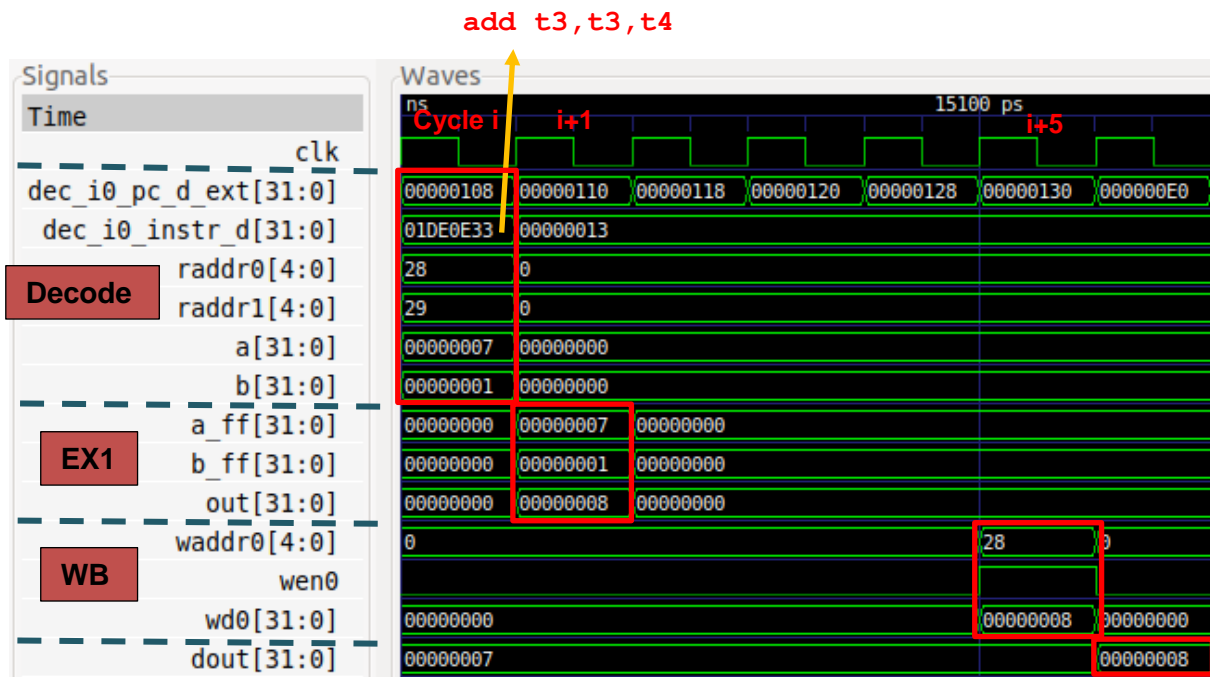
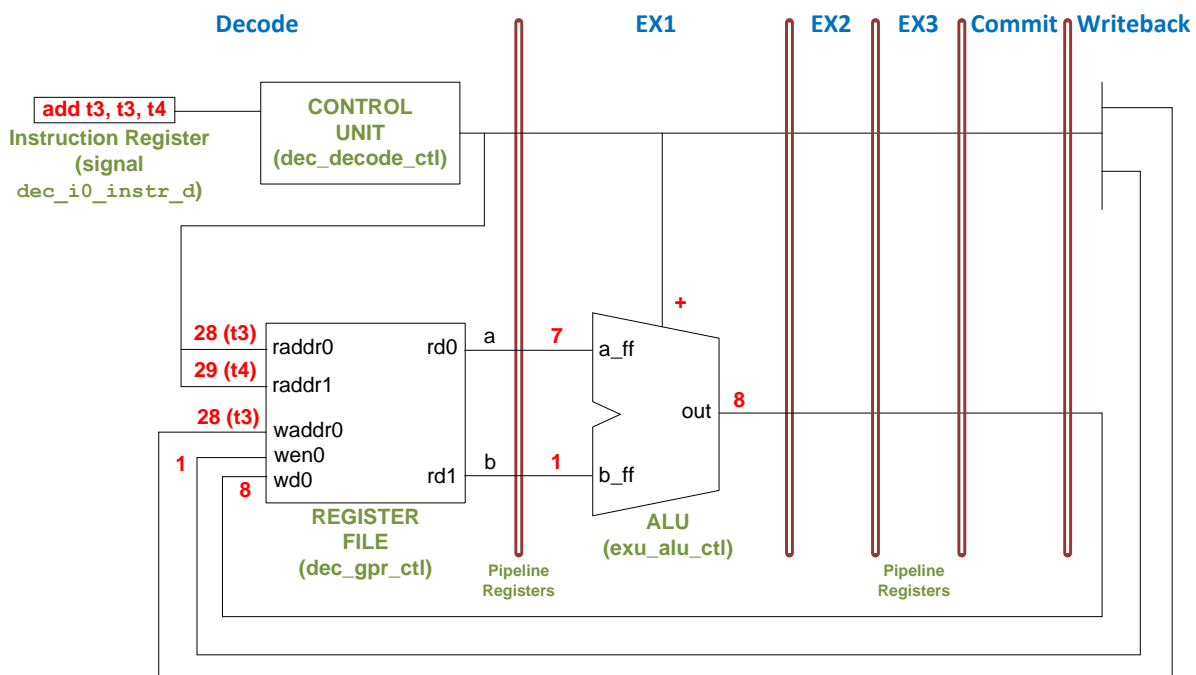
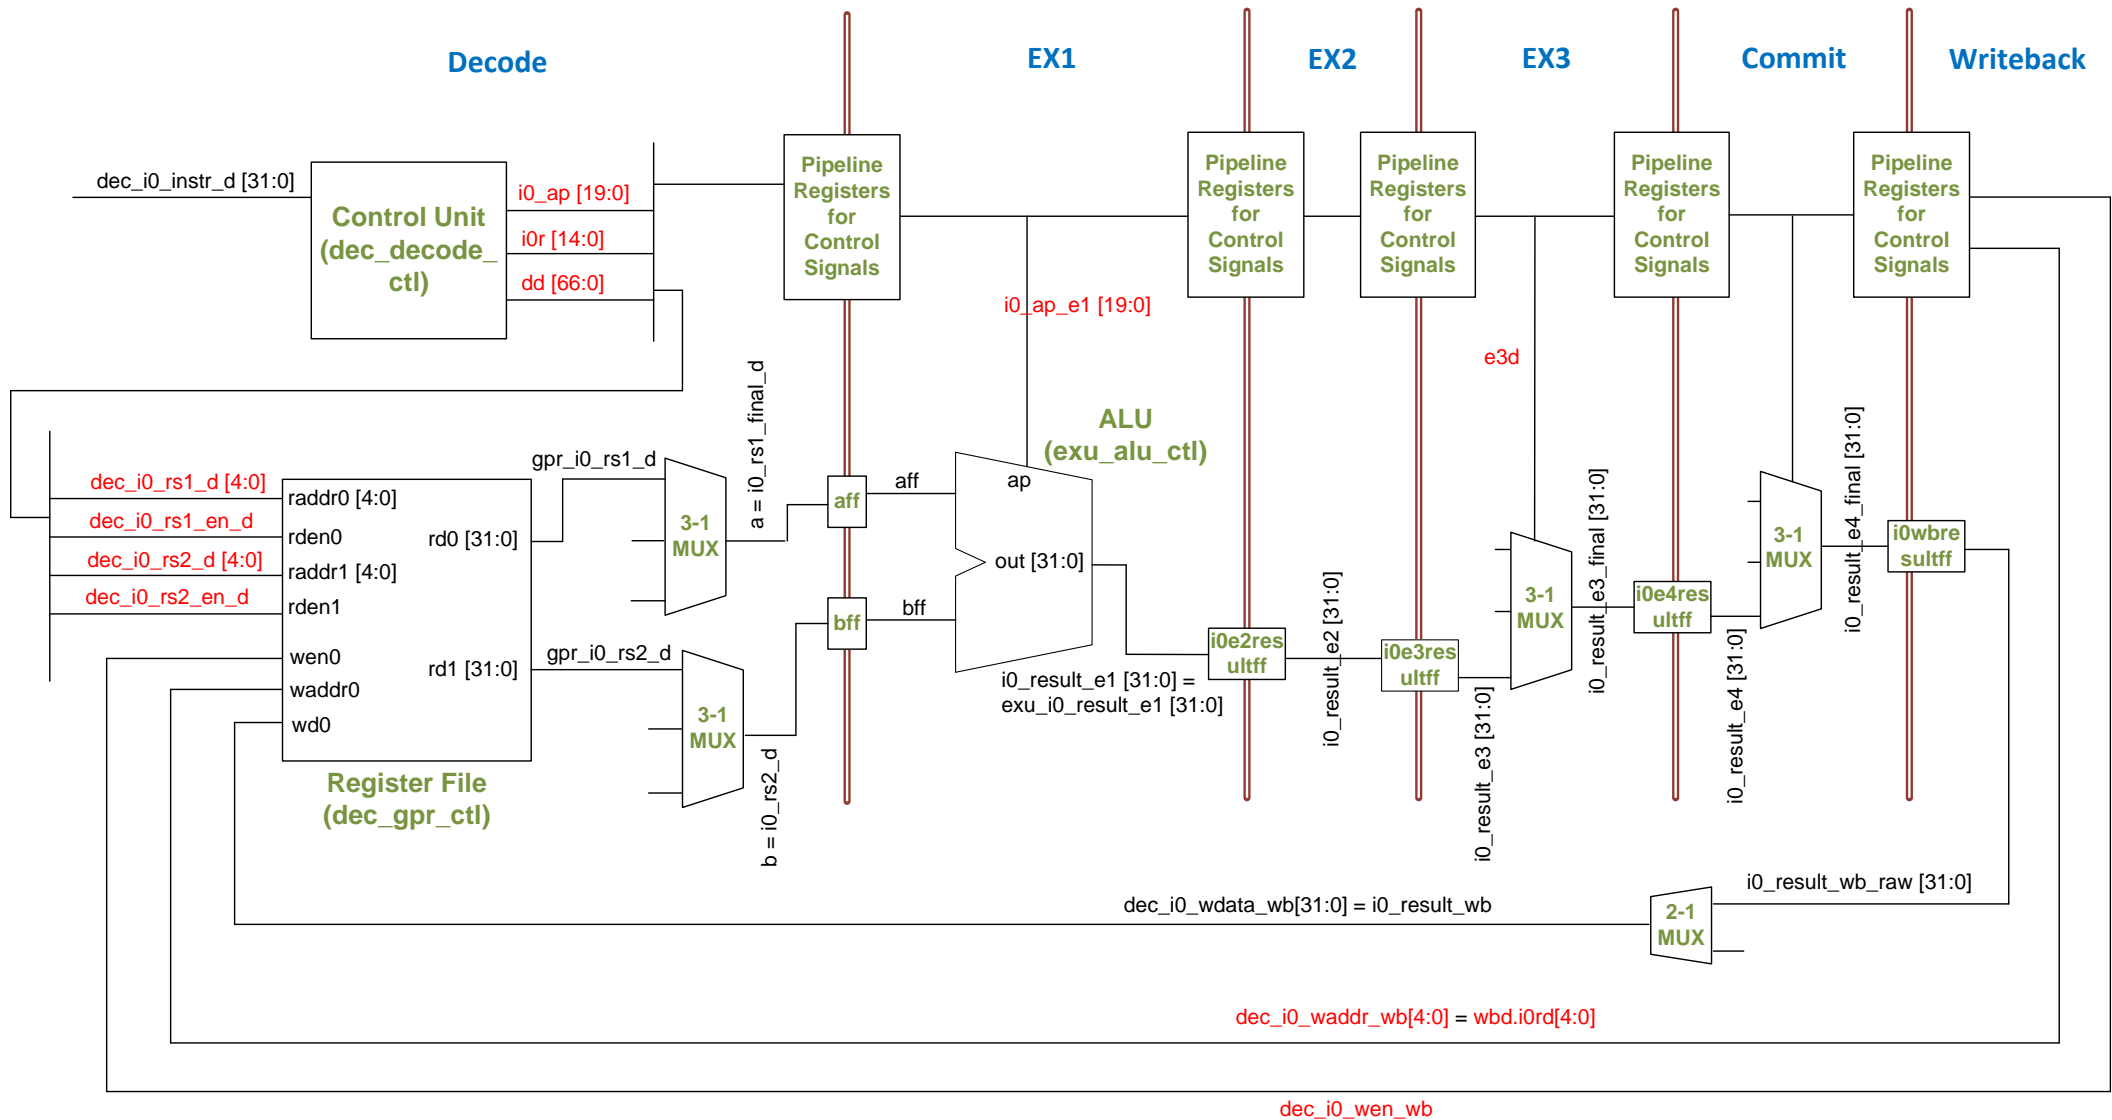
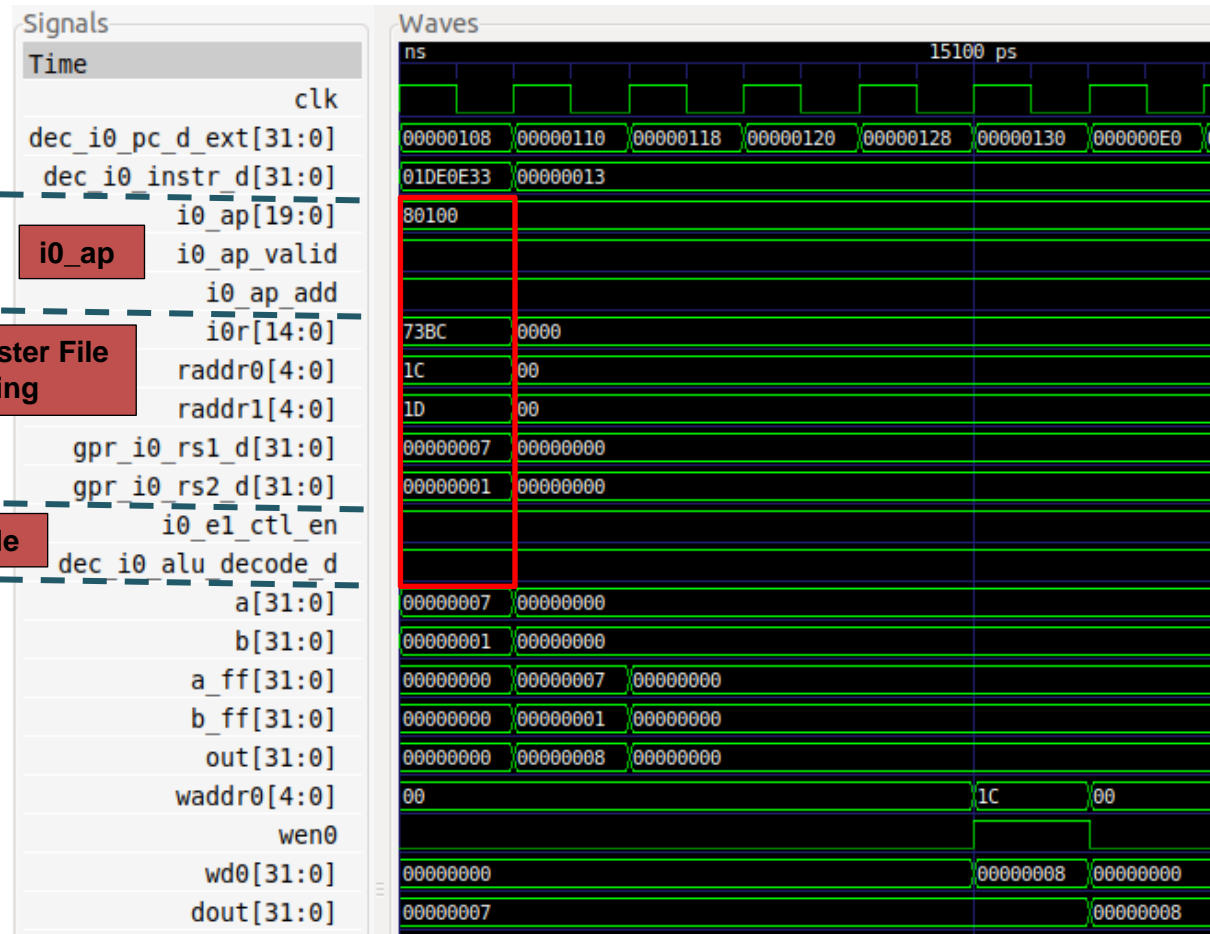

Figure 3. Verilator simulation for the example program in Figure 2
Figure 4. SweRV EH1 pipeline executing an add instruction
Figure 6. Main units used by Arithmetic-Logic instructions flowing through the I0 pipe
Figure 7. Verilator simulation of the example program of Figure 2, including control signals and Register File read ports
Figure 3 shows the Verilator simulation of the program from Figure 2 for the execution of the `add` instruction in the fourth iteration of the loop. The figure includes some signals associated with the Decode, EX1 and Writeback (WB) stages. The values highlighted in red correspond to the `add` instruction as it traverses these three stages through the I0 Pipe. Note that the signals shown in the figure correspond to the I0 Pipe.
Figure 4 shows a simplified diagram of the SweRV EH1 pipeline executing the `add` instruction during the fourth iteration of the loop (see program in Figure 2) through the I0 Pipe. Note that the figure merges the state of the processor in different cycles:
TASK: Replicate the simulation from Figure 3 on your own computer. To do so, follow the next steps (as described in detail in Section 7 of the GSG):
- Use file *test_1.tcl* (provided at [RVfpgaPath]/RVfpga/Labs/Lab12/ADD_Instruction/) for opening the same signals as the ones shown in Figure 3. For that purpose, on GTKWave, click on *File – Read Tcl Script File* and select the *test_1.tcl* file.
We follow the `add` instruction through the pipeline by analysing the waveform from Figure 3 and the diagram from Figure 4 at the same time, and as described below.
In this section we analyse the stages traversed by the `add` instruction, from Decode to Writeback, in more detail than in Section A and we progressively add more signals to the simulation from Figure 3.
Figure 6 shows a detailed diagram of the main elements that an `add` instruction traverses during its execution through the I0 Pipe. This was already illustrated in Figure 4 of Lab 11 (we recommend comparing both figures), but we now focus only on the I0 Pipe and provide details related to the `add` instruction. You may need to zoom into the figure to be able to see the details. The names of the control signals are shown in red whereas the names of the data signals are shown in black. These names are the actual names used in the SweRV EH1 Verilog modules. Equal symbols (=) represent signal assignments in the Verilog code.
TASK: Locate the main structures and signals from Figure 6 in the Verilog files of the SweRV EH1 processor.
As also explained in Lab 11, the input operands are provided to the I0 pipe (`i0_rs1_final_d` and `i0_rs2_d`) through two 3:1 multiplexers implemented in the Decode Stage (see Figure 6). In the `add` instruction from our example, both input operands are obtained directly from the Register File:
TASK: Find in the Verilog code (module `exu`) the 3:1 multiplexer on the bottom (second input operand) and try to find the origin of its inputs (in Figure 6 only the input coming from the Register File is shown). You do not need to look into the inputs too closely, as they will be analysed in the exercises proposed in Section 3 and in future labs.
Figure 7 extends the Verilator simulation from Figure 3 by adding the signals introduced above:
TASK: Replicate the simulation from Figure 7 on your own computer. You can use the `.tcl` script provided at: `[RVfpgaPath]/RVfpga/Labs/Lab12/ADD_Instruction/test_2.tcl`. Note that aliases are used in this `.tcl` file for some of the control bits.
Analyse the waveform from Figure 7. As explained above, all bits of `i0_ap` are 0 except the `valid` and `add` bits. As also explained, signal `i0r` contains the identifiers of the two source and one destination register of the `add` instruction. Using `i0r.rs1` and `i0r.rs2`, the Register File is accessed (see signals `raddr0` and `raddr1`) and the values read are provided to the I0 pipe: `gpr_i0_rs1_d = a = 0x7` and `gpr_i0_rs2_d = b = 0x1`. Finally, you can see that both the `valid` and `enable` signals are 1, thus the I0 pipe ALU will be used in the next cycle.
TASK: In the example from Figure 2, replace the `add` instruction with a non A-L instruction (such as a `mul` instruction). Verify that the `i0_ap` signal has all its fields equal to 0 and that this makes the I0 ALU not work (you will see that signals `a_ff` and `b_ff` for the I0 Pipe at the EX1 Stage remain stable for this instruction). You can use the same `test_2.tcl` file used in the example from Figure 7.
TASK: Include the new signals analysed in this section in the simulation from Figure 7.
TASK: Perform a simulation of a **sub** instruction similar to the one from Figure 7. Remember that you can include new signals in the simulation through the **.tc/** file.
In the last stage, the result of the `add` instruction is written to the Register File as shown in Figure 6. The 32-bit result (`i0_result_wb_raw[31:0]`) was computed in the EX1 stage and was propagated to this stage. It traverses a 2:1 multiplexer before being passed to the Register File (the other input of this multiplexer comes from the Divisor, as we will analyse in Lab 14). The register address (in Figure 7 signal `waddr0` is shown in hexadecimal, but it could be shown in decimal as explained before) and the write enable signals are provided through the Control Pipeline Registers.